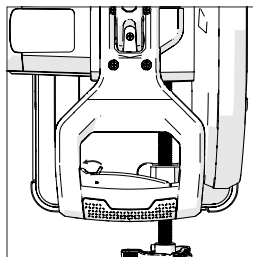

Abb. 12
- Push in the safety lock on the left side of the trigger switch to the left (**Fig. 12**).